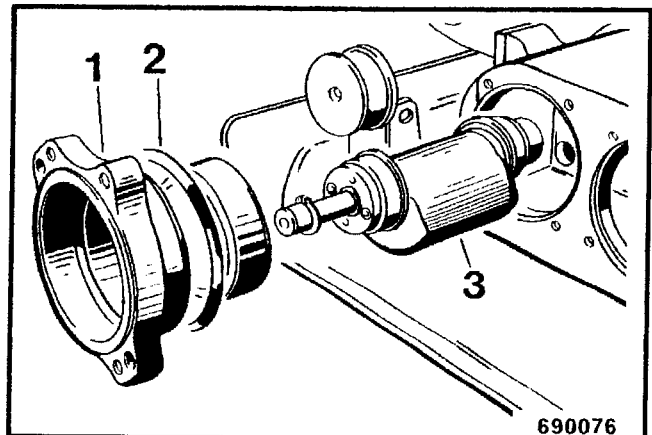

Fig. 18
- Take the control housing flange 1 (Fig. 18) with the seal ring (2) off.
- Take the exciter shaft (3) out of the housing.